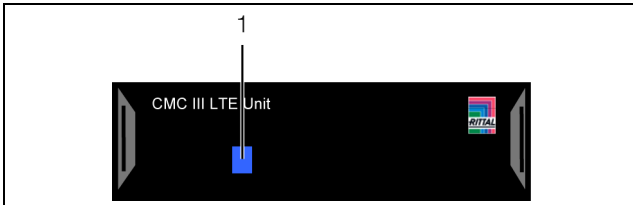

Fig. 10: Front of the LTE unit
- 2 Connection of the CMC III Processing Unit RJ 12/ RS 232, 24 V $\overline{\text{---}}$, 500 mA (alternative to item 7)
- 7 Connection of the CMC III Processing Unit RJ 12/ RS 232, 24 V $\overline{\text{---}}$, 500 mA (alternative to item 2)
A multi-LED for status display is integrated into the front of the LTE unit (fig. 10, item 1).